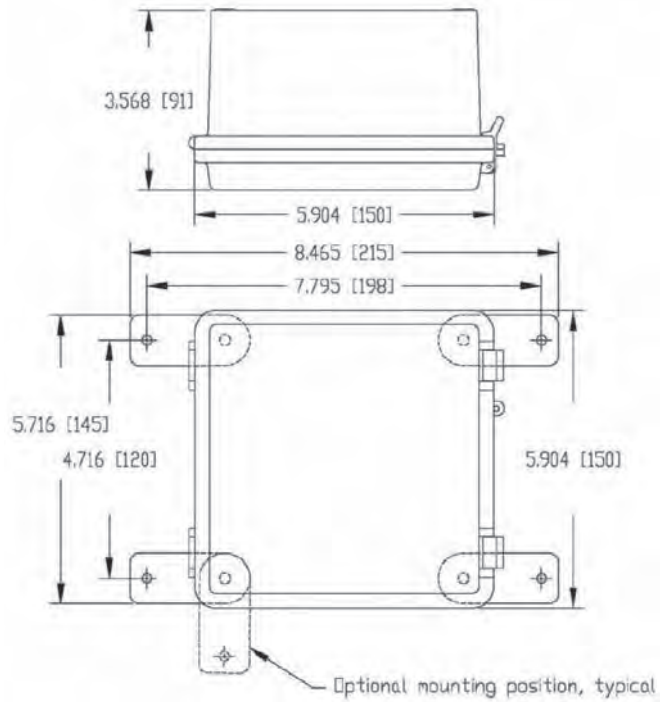

Figure 2 - Plastic enclosure dimensions
2. Plastic NEMA 4X enclosures, shown in Figure 2